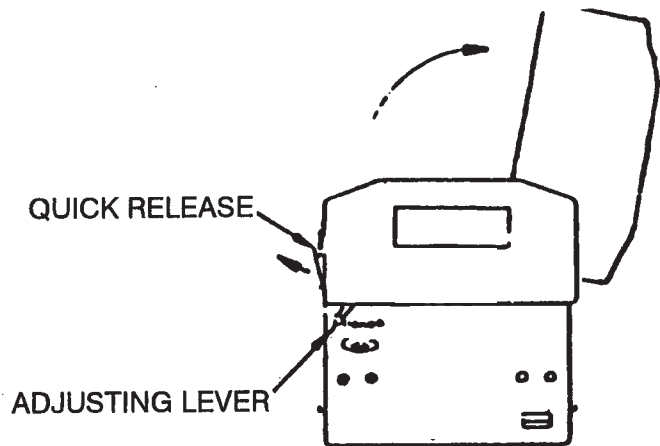

FIG. 3
You can find a Quick Release at the top of each side cover. Pull the Quick Release in the direction of the arrow and you can open the cover. (Refer to Fig. 3).
4. Adjust the thickness of paste by moving the adjusting lever in the direction of the arrow (shown in Fig. 3), move adjusting levers on both ends. Check paste thickness by running finger over roller. Set the adjusting levers at a suitable position at each end.